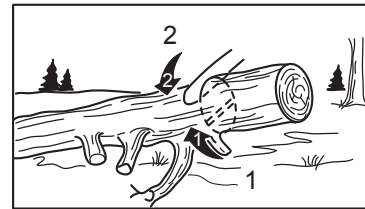

FIG. 5
2. Trunk supported only on one end: First cut from below for  $\frac{1}{3}$  of the trunk and then from the top down until the previous cut has been reached. (Fig 5).